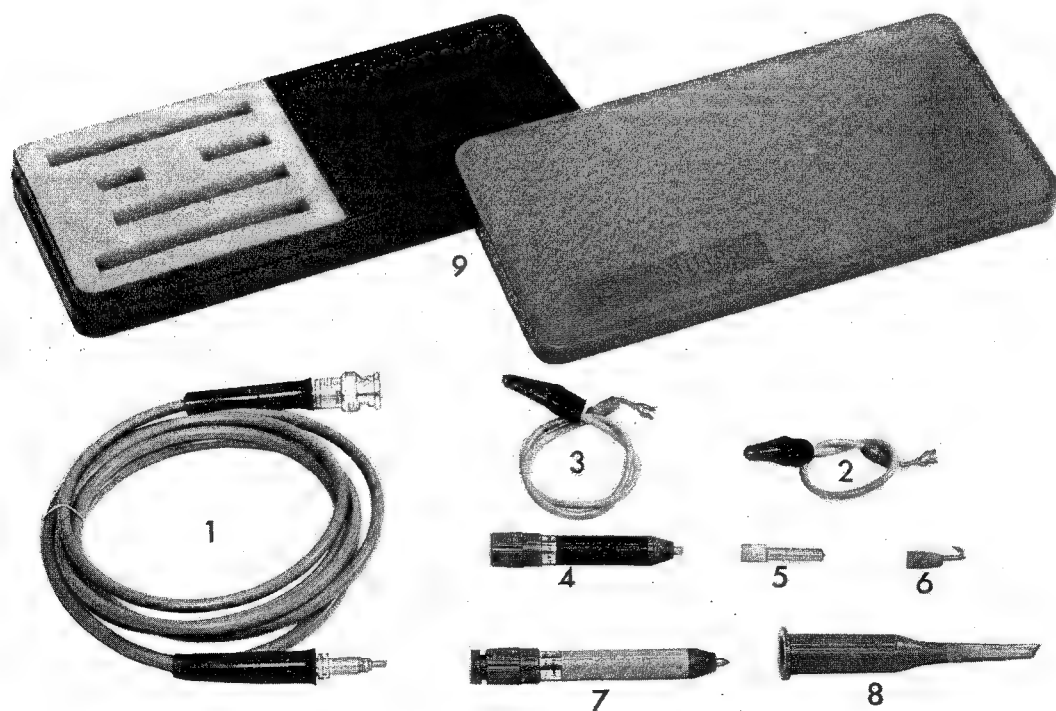

Fig. 3.24. Attenuator probe set PM 9326 (PM 9327)
### 3.5.3. ATTENUATOR PROBE SETS PM 9326 and PM 9327 (Fig. 3.24.)
1 probe cable	Fig. 3.24. item 1
1 earth lead 15 cm	Fig. 3.24. item 2
1 earth lead 30 cm	Fig. 3.24. item 3
1 measuring probe 1:1 (black)	Fig. 3.24. item 4
1 test pin	Fig. 3.24. item 5
1 test hook	Fig. 3.24. item 6
1 attenuator probe 1:10 (grey)	Fig. 3.24. item 7
1 test clip	Fig. 3.24. item 8
1 box	Fig. 3.24. item 9